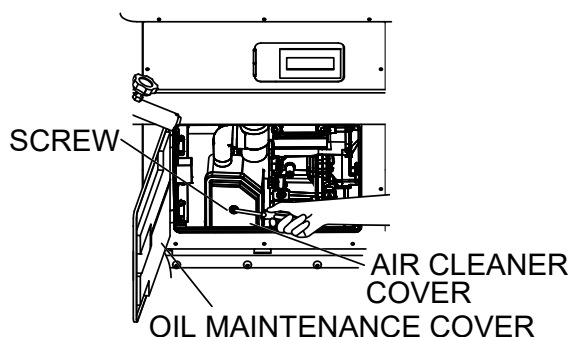

Figure 45. Removing Air Cleaner Cover
2. Open the oil maintenance door (Figure 45).